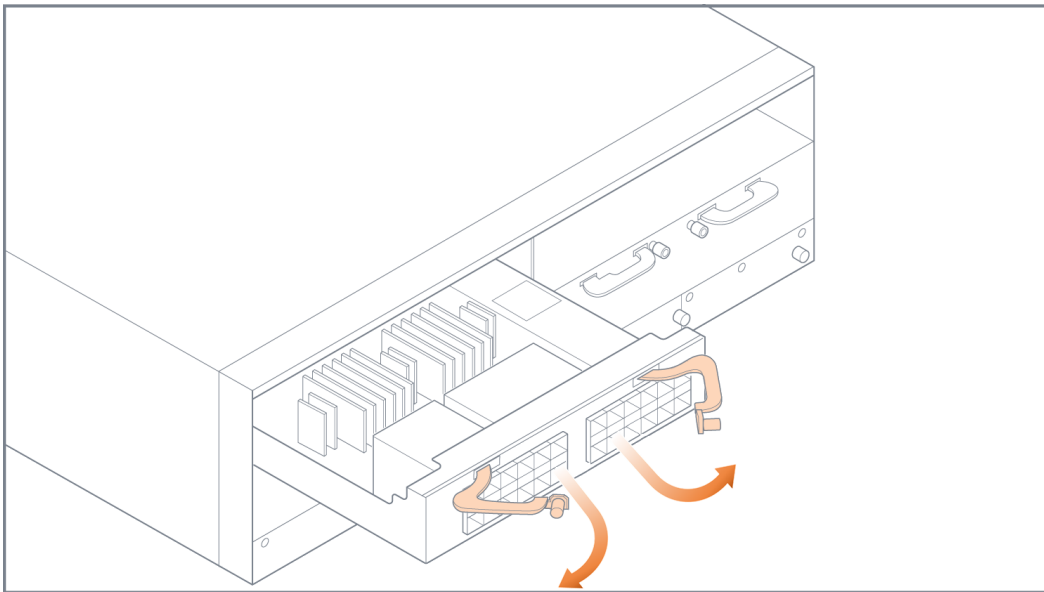

Figure 11: Module Levers
1. Pull out the two levers at the top of the module as shown in Figure 11: Module Levers.